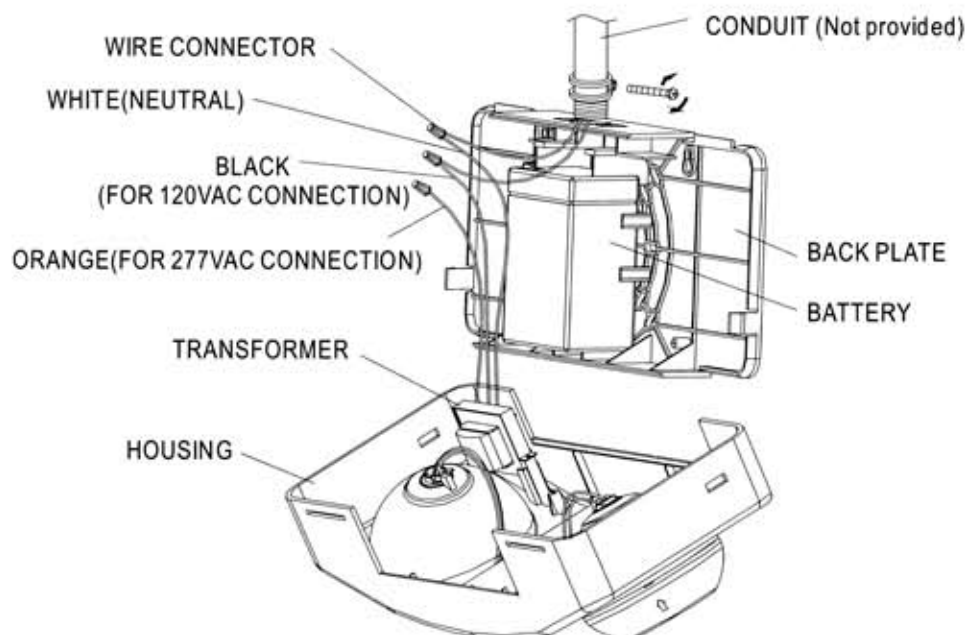

Fig.3
2. Remove knock out hole from back plate. (see Fig. 3)